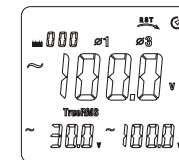
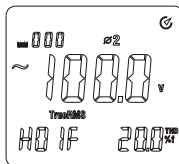
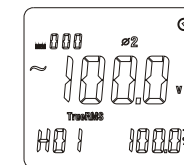

Figure 20
Figure 22
Figure 23
- 4) LCD will display default phase detection result if certain phase of voltage is less than 50V or without signal for three-phase four-wire system load. As shown in Figure 20, symbols of corresponding phases will not be displayed on LCD.
Measurement steps: Press HARM key to enter into measurement mode of total voltage harmonics to total wave distortion rate firstly after bootstrap and connect voltage signal of measured phase to voltage input end of instrument by probe and connect zero wire to COM end. As shown in Figure 20, connect phase wire to any port of V1/V2/V3 and press SELECT key so that measurement port can be consistent with input port. As shown in Figure 22, LCD will display current harmonic order (with auxiliary display in left lower corner), total voltage harmonics for full wave distortion rate (with auxiliary display in right lower corner) and effective value of harmonic voltage (with main display in the middle) respectively.
Measurement steps: Press HARM key to enter into measurement mode of voltage harmonic components after bootstrap and connect voltage signal of measured phase to voltage input end of instrument by probe and connect zero wire to COM end. As shown in Figure 20, connect phase wire to any port of V1/V2/V3 and press SELECT key so that measurement port can be consistent with input port. As shown in Figure 23, LCD will display current harmonic order (with auxiliary display in left lower corner), effective value of harmonic voltage (with main display in the middle) and percentage of effective value of harmonic component for effective value of fundamental wave (with auxiliary display in right lower corner) respectively.